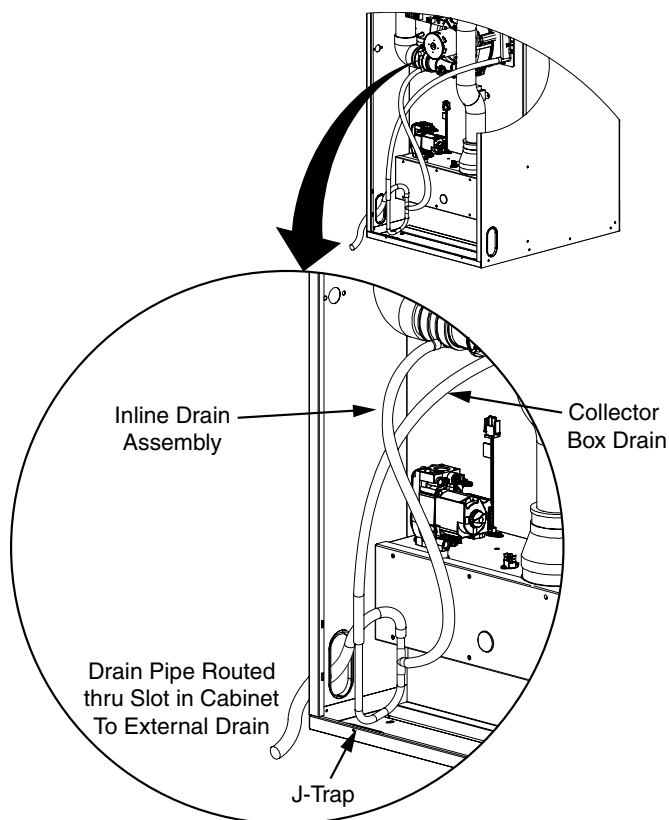

Figure 17. Condensate Drainage
- The condensate drain may exit through the left or right slots in the bottom of the furnace. See Figure 17 \(page 18\). Make sure the flexible drain hose is not kinked.
1. Remove the collector box soft tube (Figure 17) and verify the exit from the collector box is clear of any debris or obstructions.